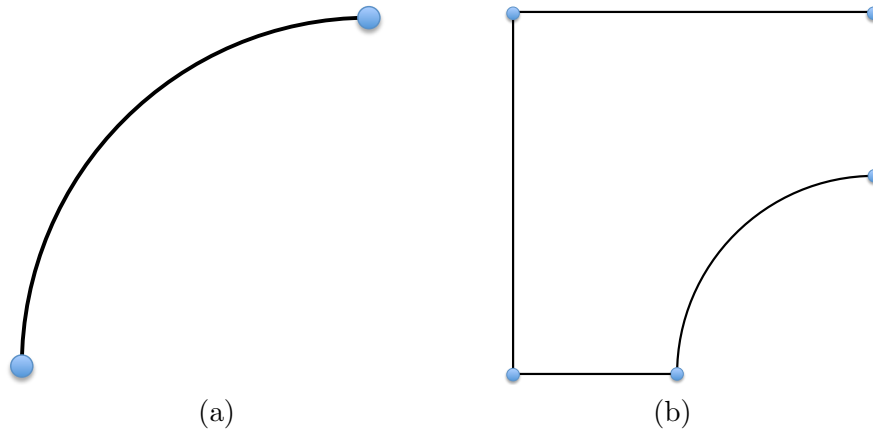

Figure 1: (a) Two-dimensional quarter circle, (b) Plate with hole.
- (a) Determine the control points and weights required to represent a two-dimensional quarter circle (see Fig. 1(a)) using a NURBS curve of degree $p = 2$ with knot vector $\Xi = [0, 0, 0, 1, 1, 1]$. Using the MATLAB function NURBS_Curve, plot the NURBS curve along with its control polygon.
- (b) Determine the control points and weights required to represent a two-dimensional plate with a hole (see Fig. 1(b)) using a NURBS surface of degree $p_1 = p_2 = 2$ with knot vectors $\Xi_1 = [0, 0, 0, 1, 1, 2, 2, 2]$ and $\Xi_2 = [0, 0, 0, 1, 1, 1]$. Using the MATLAB function NURBS_Surface, plot the NURBS surface along with its control net.